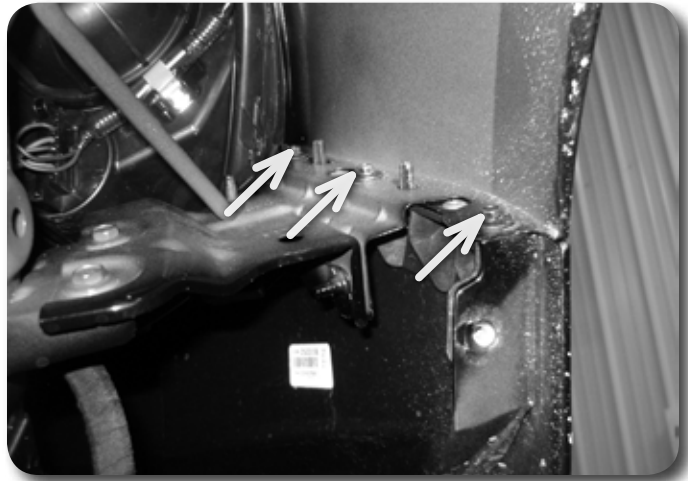

Figure 4
9. Remove the 3 outer fascia bolts on each side. See Figure 4